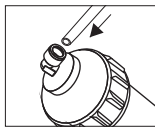

Fig. 8
- 3) Connect plastic tubing with INLET and OUTLET of the connector. **WARNING! When installing tubing pay particular attention not to break plastic tubing (Fig. 8).**